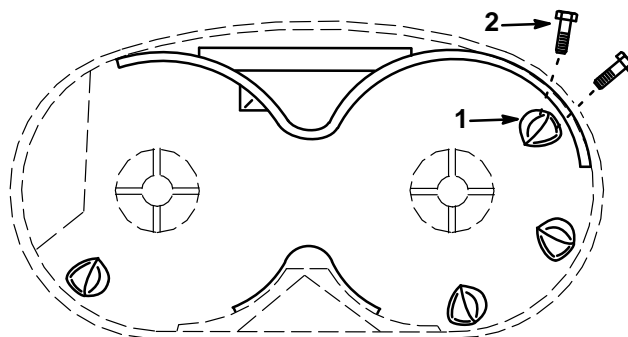

Figure 3
1. Install kicker plates with holes toward top of deck using #8 x $\frac{5}{8}$ " screws (Fig. 3). Screws are installed from top of deck. Long slope on kickers must be positioned in a clockwise direction as viewed in Figure 3.